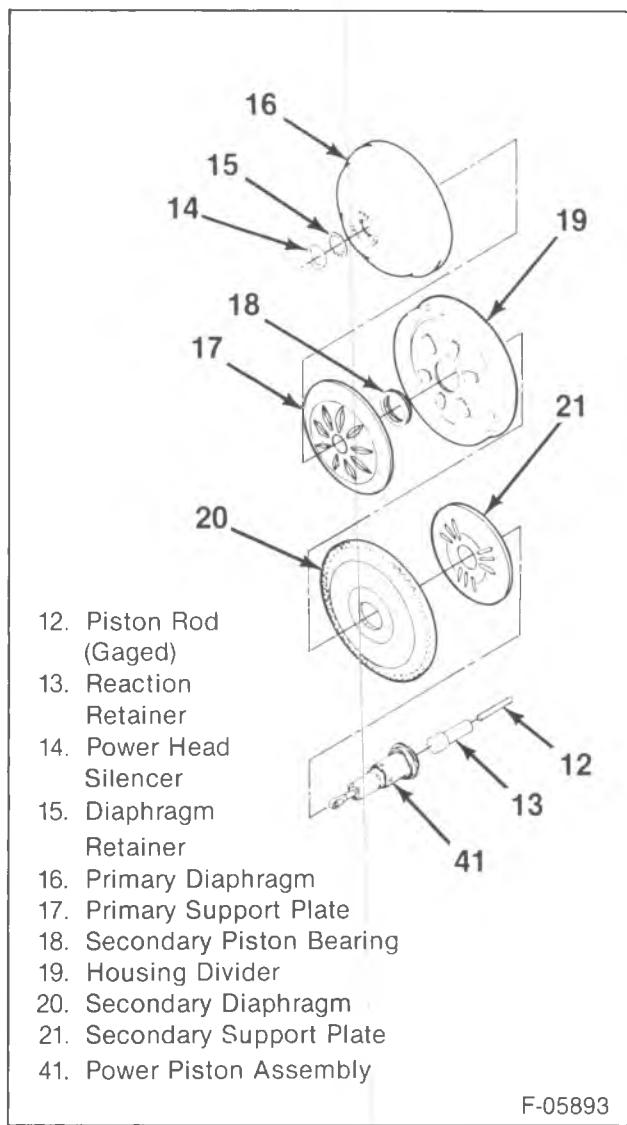

Figure 27—Power Piston Group
1. Lubricated O-ring (31) onto the air valve pushrod assembly (32).
2. Air valve pushrod assembly (32) into the power piston (41).
3. Retainer (30) and seat.
4. Filter (29) over the pushrod eyelet and into the power piston (41) (figure 27).
5. Retaining ring (28) onto the air valve pushrod assembly (32).
6. Reaction bumper (27) and air valve spring (26).
7. Reaction piston (23) and reaction disc (22) into the reaction body (25).
8. Reaction body (25).
9. Reaction body retainer (24).
- Lubricate the inside diameter of the secondary diaphragm (20) lip, inside diameter of the primary diaphragm (16) lip and the secondary piston bearing (18) with a thin layer of silicone grease.
10. Secondary diaphragm (20) into the secondary support plate (21).